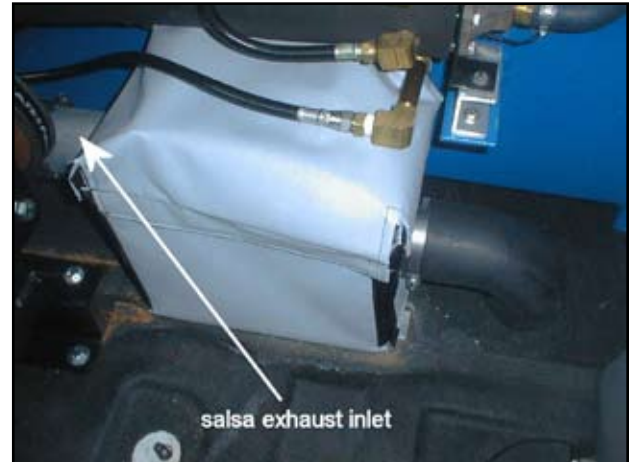

Figure 21. Attach Short End of Elbow to Salsa Inlet
2. Attach the short end of the 3" rubber elbow to the Salsa inlet (see Figure 21).